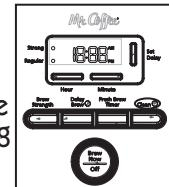

Figure 11
4. Press the Brew Now/Off button and the Clean button. The red clean light will turn on. (Figure 11). For your convenience the cleaning cycle is automatic. The entire cycle will take 45-60 minutes to complete. During the cleaning your coffeemaker will: